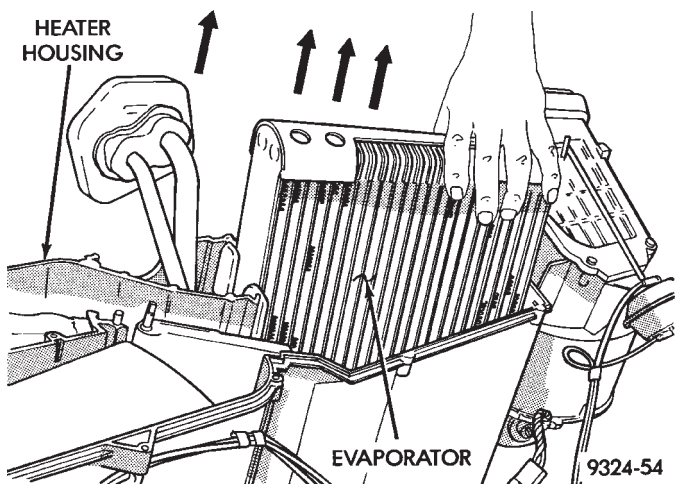

Fig. 3 Removing or Installing A/C Evaporator Coil
(5) Remove A/C evaporator coil out of unit (Fig. 3).